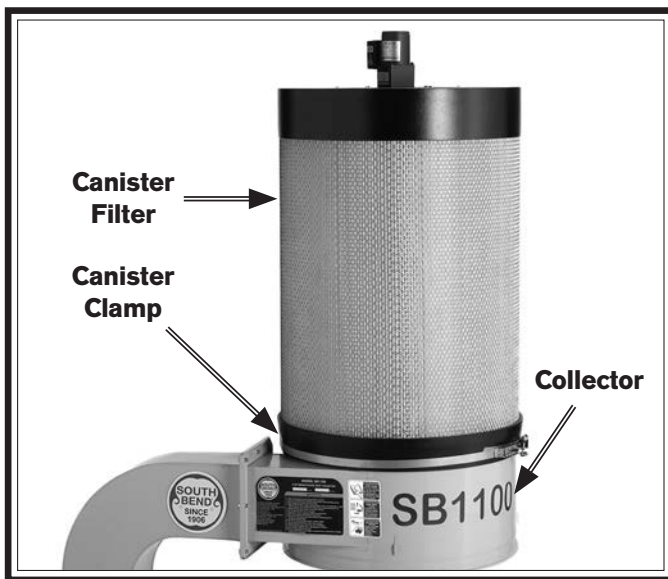

Figure 24. Canister filter secured to collector with bag clamp.
- 22.** Position canister clamp around base of canister filter, then place canister filter over collector and tighten clamp (see **Figure 24**).